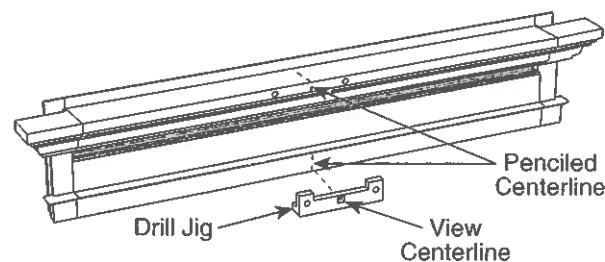

Figure 11
10. Place stepped edge of Drill Jig (provided with Keystone) on Mantel's top edge and align slotted hole over penciled centerline of Mantel. Drill two $1/4"$ holes through hole pattern of Drill Jig. Repeat second set of holes on bottom edge of Mantel (Figure 11).